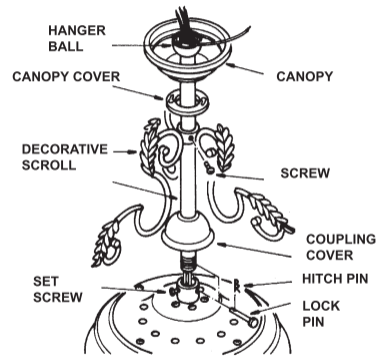

Fig.9
Step 7. Carefully feed fan wires up through the downrod. Thread Downrod into the Coupling until the holes are lined up and secure with the Lock Pin and Hitch Pin previously removed, tighten Set Screws. Slip Coupling Cover, Decorative scroll, Canopy Cover and Canopy onto Downrod. Carefully re-install the Hanger Ball onto the Downrod being sure that it's properly positioned over the Cross Pin and the wires are not twisted, tighten Set Screw. (Fig. 9)